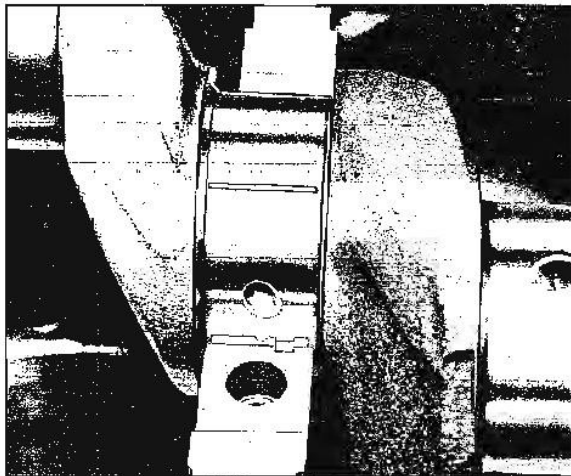

Fig. 6-53 Plastigage on Journal
3. Place a piece of Plastigage, the length of the bearing (parallel to the crankshaft), on the journal or bearing surface (Fig. 6-53). Install the cap and tighten cap bolts to proper torque.